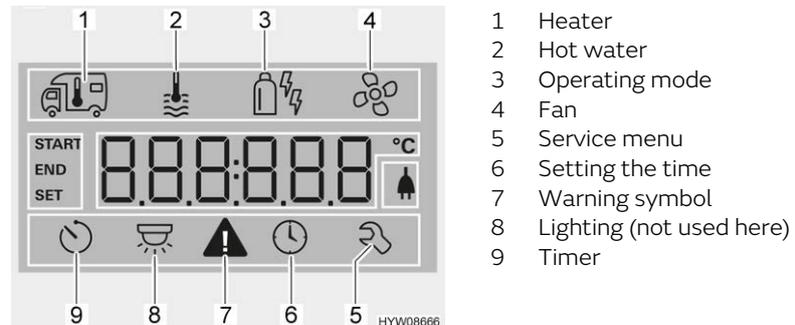

Fig. 220 Display (operating unit)
- Turn rotary push button (Fig. 219,6) until the heater menu symbol (Fig. 220,1) flashes.
- Turn rotary push button (Fig. 219,6) until the hot water menu symbol (Fig. 220,2) flashes.
- Turn rotary push button (Fig. 219,6) until the menu symbol operating mode (Fig. 220,3) flashes.
- Turn rotary push button (Fig. 219,6) until the fan menu symbol (Fig. 220,4) flashes.
- Turn rotary push button (Fig. 219,6) until the timer menu symbol (Fig. 220,9) flashes.
- Press rotary push button. The timer is activated. The timer symbol (Fig. 220,9) flashes when the timer is programmed and active.
The warning symbol (Fig. 220,7) flashes in the event of a warning. The heater continues to operate. In the event of only a temporary fault, the warning symbol goes out automatically.